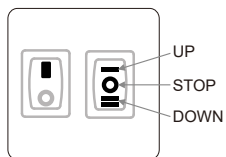

Figure 12
1. Switch Manual/Remote Control Button to position "1" (manual stalls) (Figure 12).